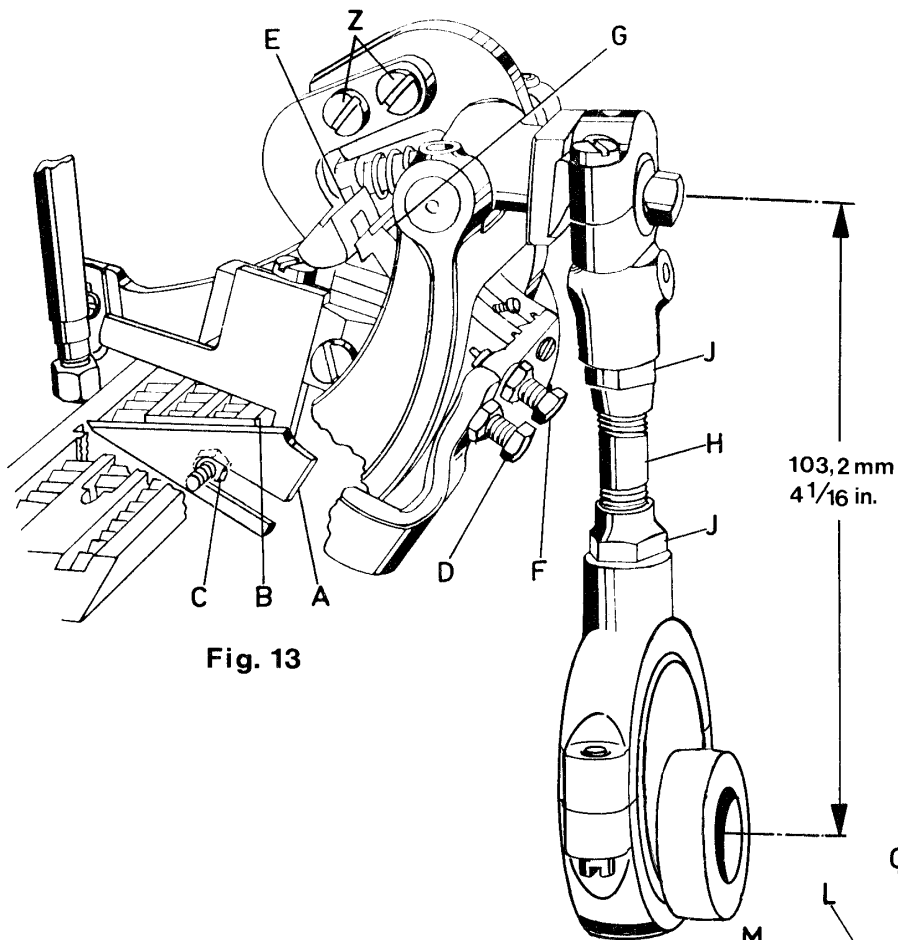
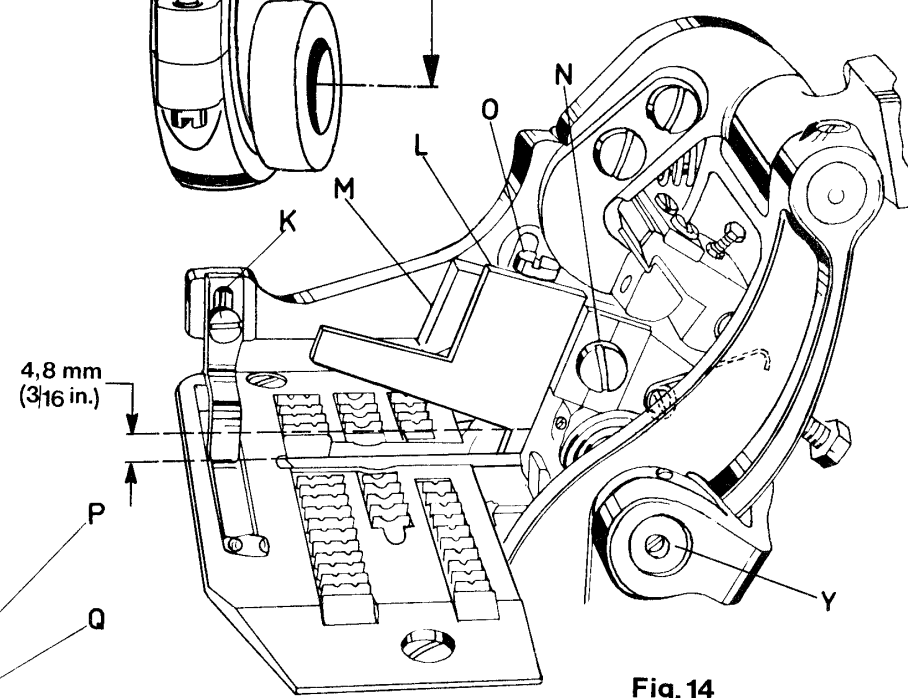
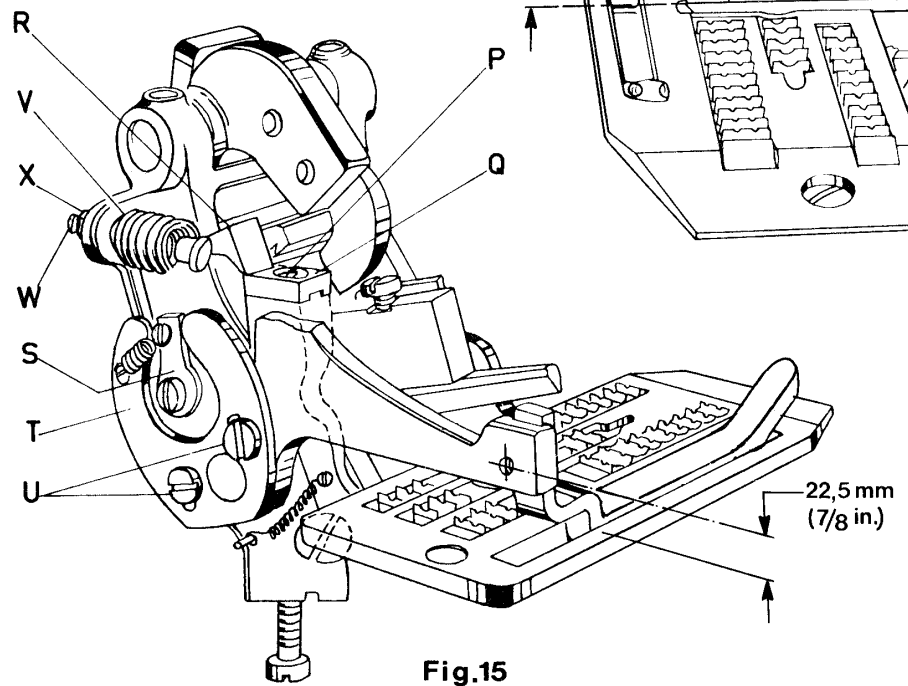

Fig. 13
Fig. 14
Fig. 15
2. Lay the throat plate temporarily on its seat. Loosen the hexagonal head adjusting screw (D, Fig. 13) and set so that the distance between top surface of throat plate and the center of thread hole for fastening the actuating shoe is 22.5 mm (7/8 in.) (see Fig. 15). Retighten screw (D, Fig. 13) with lock nut.
3. Set the lower knife (A, Fig. 13) so that the cutting edge is even with the top of throat plate (B) and tighten it in this position with the hexagonal head screw (C). Reassemble needle guard, feed dog and throat plate.
4. Assemble actuating shoe (K, Fig. 14) and set it so that the top surface of actuating shoe is even with the top surface of throat plate.
5. With a screwdriver, press the spring loaded knife lever shaft (Y, Fig. 14) to the rear and insert upper knife (L) in upper knife lever (M). Raise the upper knife as high as it will go, until the back of the knife cutting edge stops on the knife lever. Tighten the clamp screw (N) slightly.
6. Loosen screw (P, Fig. 15) and move shoe (Q) to extreme left. Turn handwheel until pawl (E, Fig. 13) is at its lowest position. Turn screw (F) until the edge of ratchet block (G) snaps over the edge of pawl (E), then add 1/4 to 1/2 turn more to ensure adequate clearance under operating conditions. Retighten the lock nut of the screw (F). If screw (F) is turned too far the mechanism will not work. Small differences can be equalized when loosening screws (Z) and adjusting the pawl (E) accordingly. Retighten screws (Z) firmly.
7. Move shoe (Q, Fig. 15) to the right so that pawls (R) will rest on the extreme right end of shoe. Shoe should have polished end to the right and point of pawls may overlap slightly over outside to insure trigger action during operation of machine.
2. Deje la plancha de aguja momentaneamente en su sitio. Suelte los tornillos de cabeza hexagonal (D, Fig. 13) y ajústelos de manera que la distancia entre la superficie superior de la plancha de aguja y el centro del hueco del pasahilo que asegura la lengüeta sea de 22,5 mm (Ver Fig. 15). Vuelva a ajustar el tornillo (D, Fig. 13) con la arandela de seguridad.
3. Ajuste la cuchilla inferior (A, Fig. 13) de manera que el borde de corte quede al ras con la parte superior de la plancha de aguja (B) y ajuste en su posición el tornillo de cabeza hexagonal (C). Monte de nuevo el guarda agujas, el diente de alimentación y la plancha de aguja.
4. Vuelva a montar la lengüeta de accionamiento (K, Fig. 14) y ajústela de manera tal que quede al ras con la parte superior de la plancha de aguja.
5. Con un destornillador, empuje el resorte inserto en el soporte de la cuchilla (Y, Fig. 14) hacia atrás e inserte la cuchilla superior (L) en el soporte de la cuchilla superior (M). Suba la cuchilla superior hasta su punto mas alto, hasta que la parte posterior del borde la cuchilla pare en el sujetador de la cuchilla. Asegure el tornillo sujetador (N) ligeramente.
6. Suelte el tornillo (P, Fig. 15) y mueva la lengüeta (Q) a la extrema izquierda. Gire el volante hasta que el diente de encaje (E, Fig. 13) llegue a su posición mas baja. Gire el tornillo (F) hasta que el borde del reten (G) se cierre sobre el borde del diente de encaje (E). Agregue 1/4 a 1/2 vuelta al tornillo (F) para asegurarlo en condiciones de operación. Asegure nuevamente la arandela de seguridad sobre el tornillo (F). Si el tornillo (F) se aprieta demasiado, el mecanismo no funcionará. Pequeñas diferencias pueden ser ajustadas soltando un poco los tornillos (Z) y ajustando el diente de encaje (E). Reasegure de nuevo los tornillos (Z) firmemente.
7. Mueva la lengüeta (Q, Fig. 15) hacia la derecha de manera que el diente de encaje (R) descansa en la extrema derecha de la lengüeta. La lengüeta debe haber sido pulida para que el deslizamiento sea mas suave y se asegure el accionamiento del disparo durante la operación de la maquina.
8. When actuating shoe (K, Fig. 1e) is raised slightly, trip dog (S, Fig. 15) should allow pawl (R) to slide off shoe (Q) and the cutting action is released within 1 1/2 turn or less of the handwheel.
Raise actuating shoe (K, Fig. 14) slightly and turn handwheel in operating direction until upper knife (L) is in its lowest position. Left at the tip of the knives, the cutting edge of the upper knife should overlap the cutting edge of the lower knife by 1 mm (.040 in.)
When open there should be about 4.8 mm (3/16 in.) opening, right at the pilot of the upper knife (see Fig. 14).
NOTE: When the knives (A, Fig. 13) and L, Fig. 14) are resharpened, their adjustment is maintained by only raising and lowering them in their holders, according to the stock removed while grinding.
9. The position of the tape cutter actuating shoe (K, Fig. 14) determines the length of tape extending beyond the bag at the start of closure. The extending length of tape at the finish of closure is not adjustable.
Also the trip dog operating cam (T, Fig. 15) can be retarded or advanced to vary the length of the tape at the start of closure. Loosen screws (U) and turn the operating cam (T) toward the handwheel end of machine to shorten the extending length of tape and in the opposite direction to lengthen it. Retighten screws (U).
The actuating shoe tension spring (V, Fig. 15) is adjustable vor various weights of material. Use screw (W) and lock nut (X) to make this adjustment. The tension should be just strong enough to press the actuating shoe down, back to its home position.
8. Cuando la lengüeta de accionamiento (K, Fig. 14) está subiendo suavemente, la punta del diente (S, Fig. 15), deberá permitir que el diente de encaje (R) deslice sobre el patín (Q) y la cuchilla cortará la cinta en 1 1/2 vueltas o menos del volante.
Eleve la lengüeta de accionamiento (K, Fig. 14) ligeramente y gire el volante en sentido de operación hasta que la cuchilla superior (L) llegue a su posición mas baja. A la izquierda de la punta de la cuchilla, el borde cortante de la cuchilla superior debe sobrepasar el borde cortante de la cuchilla inferior por 1 mm.
Cuando las cuchillas esten abiertas a su maximo recorrido, deberia haber una distancia de 4,8 mm (ver Fig. 14) justo en el soporte de la cuchilla superior.
NOTA: Cuando las cuchillas (A, Fig. 13) y (L, Fig. 14) sean afiladas, su ajuste se logra subiendo y bajandolas en sus soportes. Se recomienda sacalas para ser afiladas.
9. La posición de la lengüeta de accionamiento del cortador de cinta (K, Fig. 14) determina el largo de la cinta que sobresale en el saco al comienzo del cierre. La cinta sobrante al final del saco no es ajustable.
También el diente de operación del alimentador (T, Fig. 15) puede ser retrasado o adelantado para variar el largo de la cinta al comienzo del saco. Suelete los tornillos (U) y gire el diente de operación (T) hacia el volante al final de la maquina para acortar el largo de la cinta y en sentido contrario para alargarlo. Reasegure los tornillos (U) nuevamete.
El muelle de accionamiento (V, Fig. 15) es ajustable para los distintos gruesos del material. Este ajuste se realiza por medio del tornillo (W) y la contra tuerca (X). La tensión debe ser lo suficiente para presionar el diente de operación hacia abajo, de regreso a su posición original.